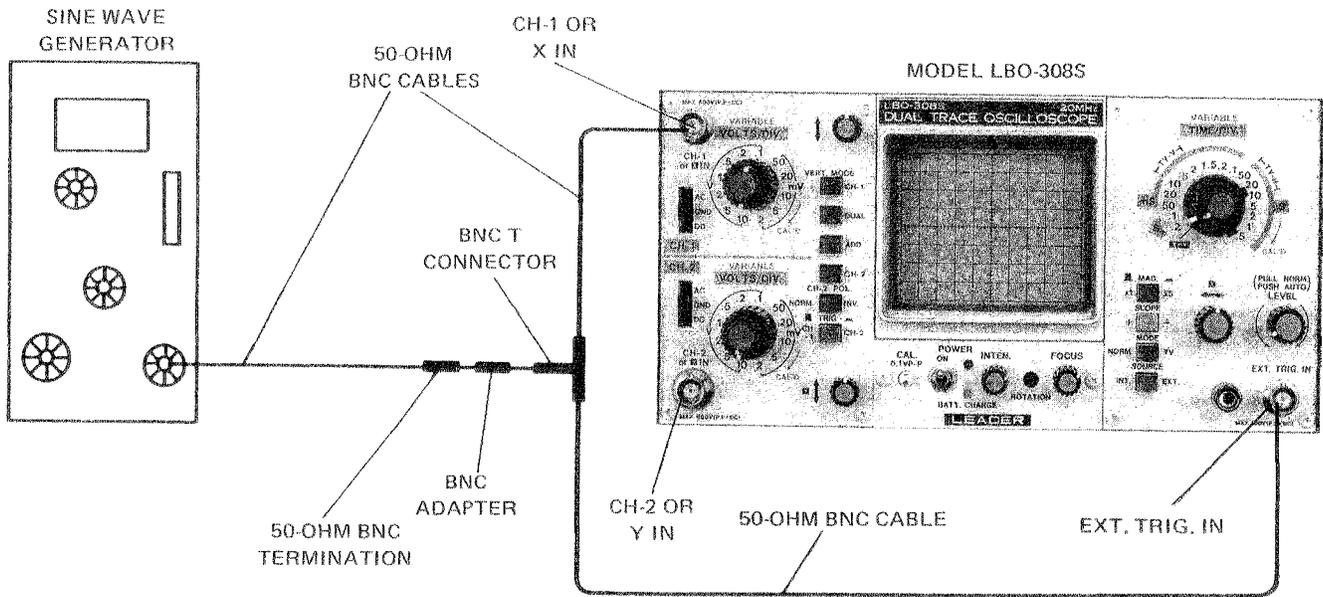

Figure 3-4. 20 MHz Triggering Test Setup
- a. Disconnect oscillator from test setup and replace it with sine-wave generator as shown in Figure 3-4.